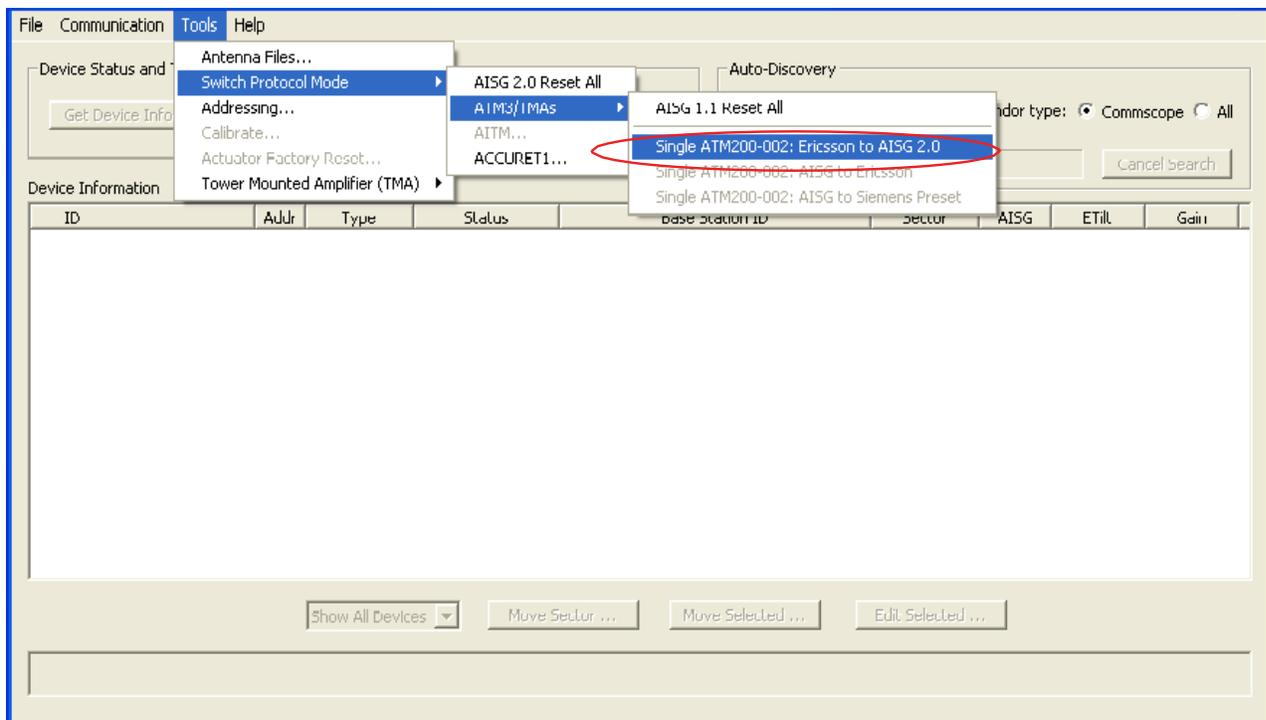

Figure 5-6. Switching Ericsson Protocol Back to AISG 2.0 Mode.
5. Once the device switches from AISG to Ericsson protocol, it is no longer controlled by the ATC200-LITE-USB and will not appear on the display (Figure 5-6).